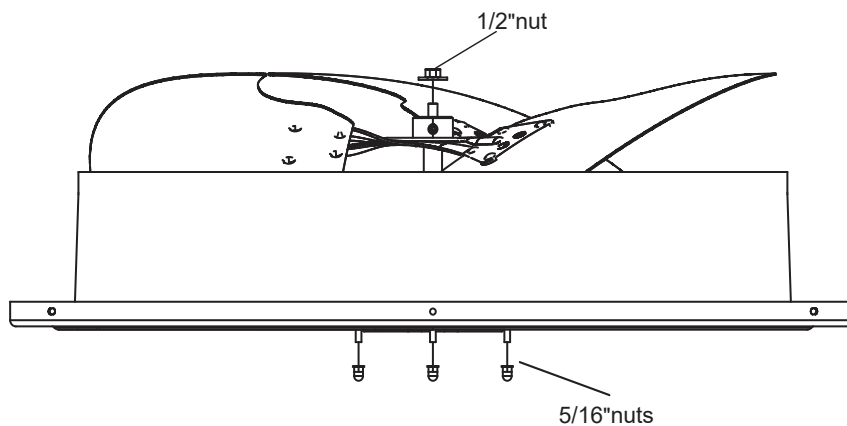

Figure 16-2
STEP 3 - Be sure to place fan cover unit on the ground (Fig.16-2).